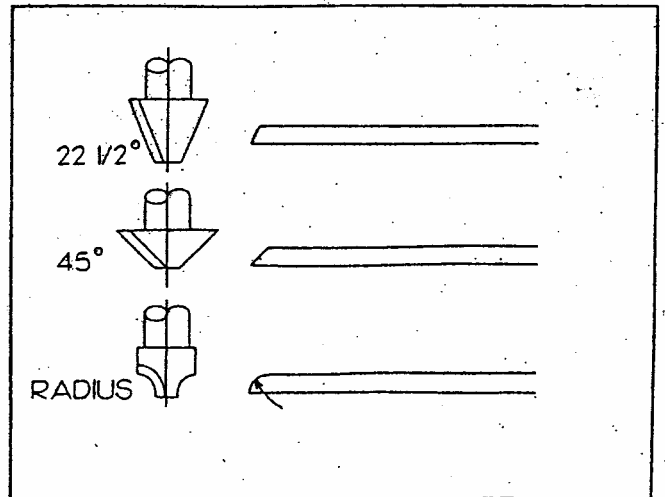

Figure 12
2. Bevel edges using either a 22-1/2° or 45° carbide, 2 fluted chamfer profile router bit or a 1/8" radius roundover bit. Use a bit that is the same thickness as the *Imagitor* sheet. See Figure 12